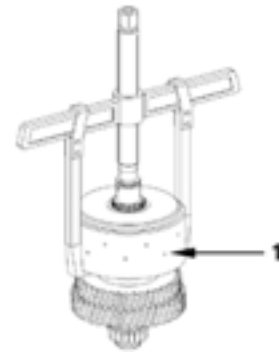

Figure 116
- Pull clutch (1, Figure 116) off the shaft.
NOTE: *Disassembly clutch (1, Figure 116) see Figure 122 - Figure 127.*